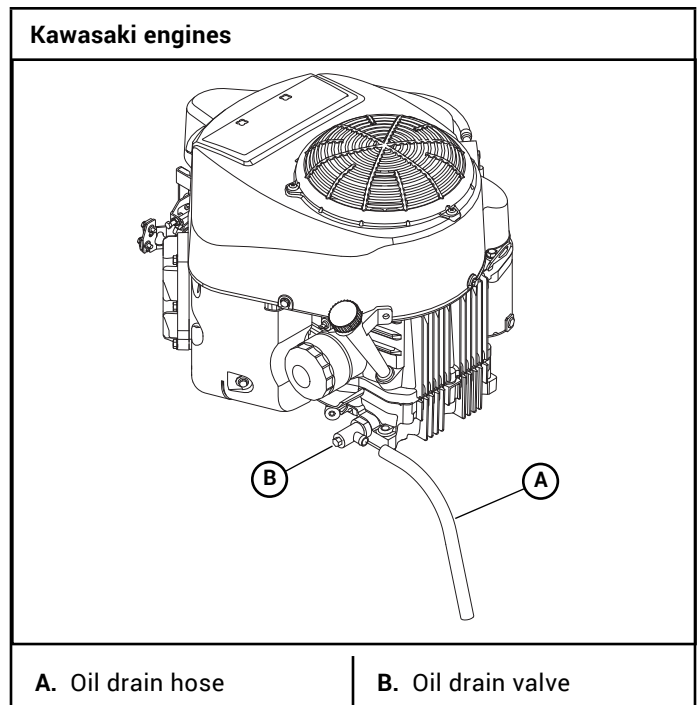

Figure 4-6
2. Locate the oil drain hose that was supplied with the machine. Be sure to clean and clear it of debris that might block the flow of the engine oil. Figure 4-6
3. Attach one end of the hose onto the oil drain valve nipple. Make sure the hose is pushed all the way onto the valve. Figure 4-6
8. Clean the oil drain hose and store it appropriately. Figure 4-6